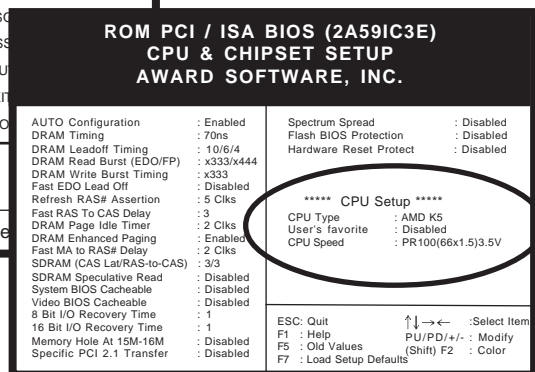

Figure 2-5
- a. Leave User's Favorite function disabled (default) and choose the correct CPU speed from the speeds available. See Figure 2-5. If you use this method, SeePU will set a default voltage of 3.3v for single voltage CPUs and 2.8/3.3v for dual voltage CPUs.